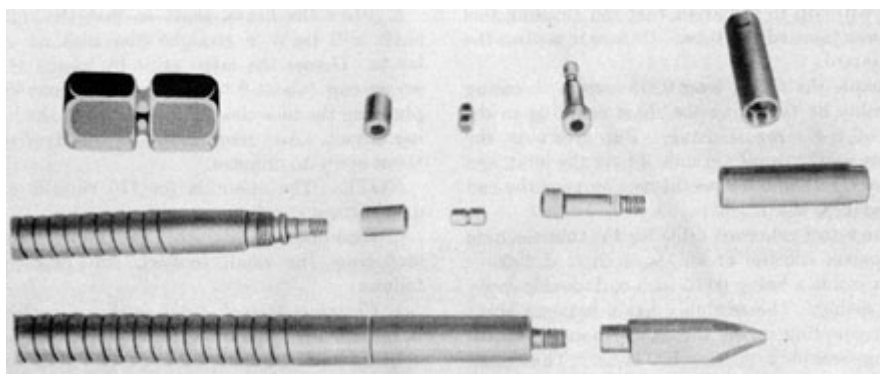

Figure 9-2. Shear coupling assembly.
**9B3. Shear coupling assembly.** (See Figure 9-2.) To provide protection for the small flexible shaft against excessive torque loads, a shear coupling assembly is attached to the cutter bit end of the flexible shaft. The feature of this assembly is a hexagonally shaped shear pin so constructed that it will break under excessive loads. The ends of the pin fit into hexagonally shaped housings, which in turn are enclosed in a common casing
The 9-foot extension cable for the tube cleaning equipment consists of an 1 1/32-inch o.d. flexible shaft inside a heavy 0.615-inch o.d. double interlock casing. The assembly has a hexagon shear shaft coupling in the thrust end housing of the casing assembly (cutter bit end). This shear coupling may be replaced by unscrewing the end fitting of the casing. This fitting has a left-hand thread. (See Figure 9-2.)
exactly with the tube. Start the motor and let the bit feed itself into the tube until the entire bit is in the tube. Now exert pressure and pass the bit through the tube. (The tubes are 16-14 inches long. The fixed sleeve on the cable indicates when the bit is completely through.) Pull the bit out of the tube, stopping the motor just before the bit is withdrawn, then go on to the next one, and so forth. One bit should clean the evaporator several times. As the cutting edges become dull, more pressure will be required to force the bit through the tube. When the pressure is too great or the bit begins to jam, the cutting edges should be lightly honed. When honing is no longer possible, the cutting edges should be reground. Should the cleaning tool fail to turn while the motor is running, the small hexagon shear coupling is probably broken. Remove the housing from the end of the casing (left-hand thread) and replace the shear coupling (Figure 9-2).